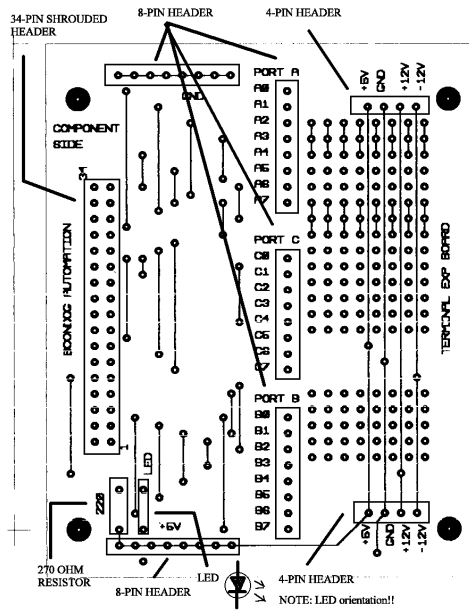

Figure 3: TEB component side and part placement
The parts in Table 2 are soldered to the Terminal Expansion Board (TEB). The TEB has a **component** and **solder** side. The parts are placed on the component side as shown in Figure 3 and soldered underneath.
1. Solder the 34-pin shrouded header, with its **notch facing the downwards** (see Figure 3)
5. Insert the green LED, **noting its orientation!** Its cathode (the flat end) faces the TEB edge (see Figure 3)